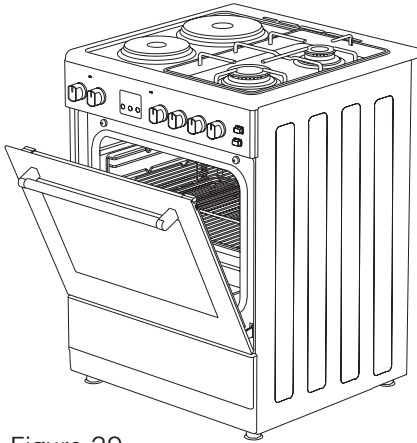

Figure 29
3. Place the safety panel under control panel by opening the oven front cover glass. (Figure 29)